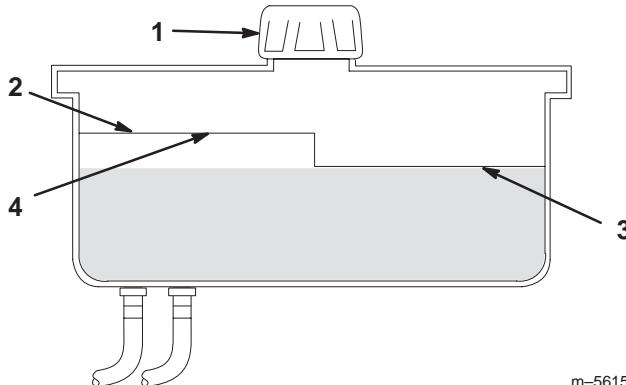

Figure 39
2. Clean area around filler neck of hydraulic tank (Fig. 39).
3. Remove cap from filler neck. Look inside to check if there is fluid in the reservoir. (Fig. 39).
Note: The fluid level should be to the top of the **hot** level of the baffle, when the fluid is warm (Fig. 39).